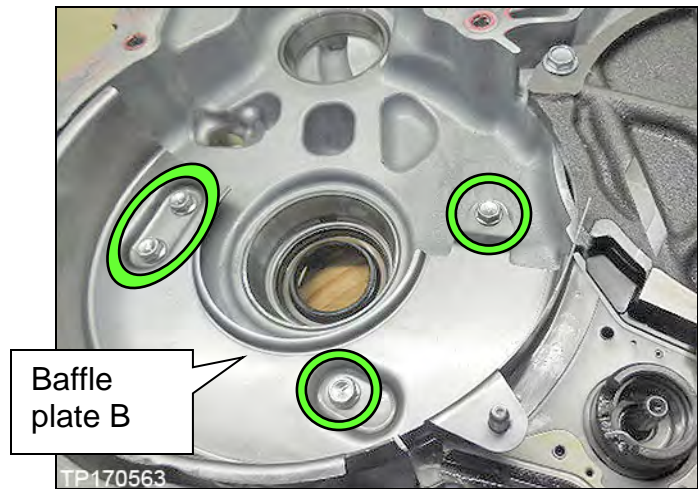

Figure 17B
11. Remove the four (4) bolts from baffle plate B, and then remove baffle plate B (Figure 17B).